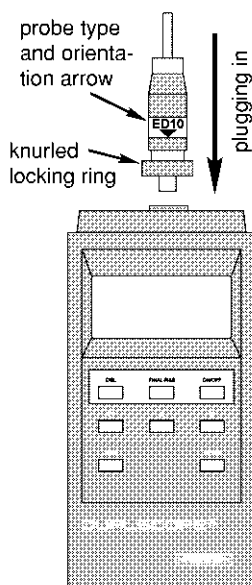

Figure 7.3: Orientation of the Probe Connector when Plugging the Probe Connector in the Probe Receptacle
3. Plug the probe connector of the new probe into the probe receptacle of the instrument (refer to figure 7.3).